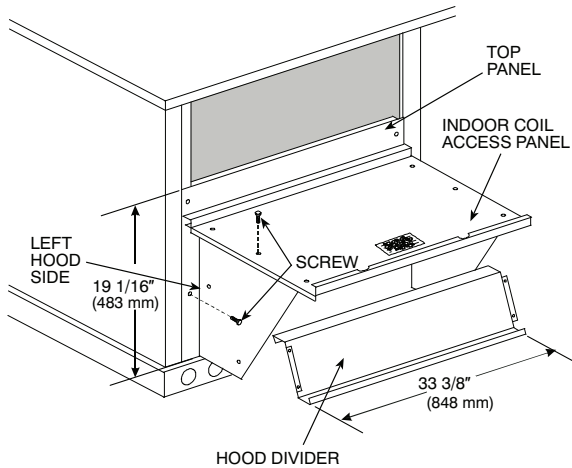

Fig. 14 — Economizer Hood Construction
2. Swing out indoor coil access panel and insert the hood sides under the panel (hood top). Use the screws provided to attach the hood sides to the hood top. Use screws provided to attach the hood sides to the unit. See Fig. 14.
4. Insert the hood divider between the hood sides. See Fig. 14 and 15. Secure hood divider with 2 screws on each hood side. The hood divider is also used as the bottom filter rack for the aluminum filter.